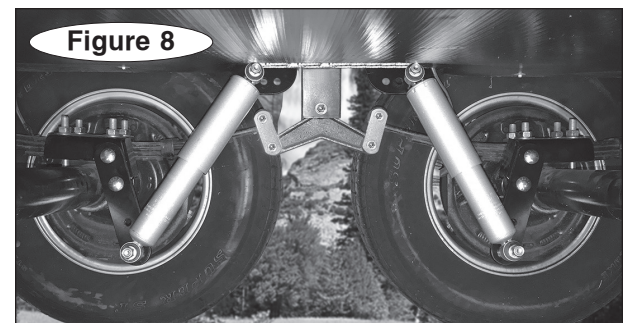

Figure 8
9. Figure 8 shows the shock absorbers installed.